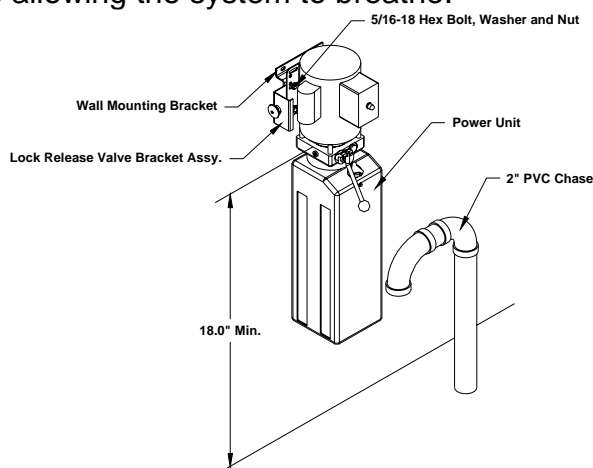

Fig. 5
5. Run the 2" PVC chase from the control area and join to the lift / containment assembly using the coupling provided. Use a soap water solution to ease assembly. All PVC joints must be leak proof. The power unit end of the chase should be finished as shown in Figure 5 to prevent contamination from entering the chase, while allowing the system to breathe.
15. Install the power unit mounting bracket or floor pedestal using the anchors provided. **IMPORTANT:** The electric motor must be mounted at least 18 inches above the finished floor level as per National Electric Code NFPA70. Assemble the power unit and lock release valve bracket to wall mounting bracket or pedestal with 5/16-18 cap screws and nuts provided. Refer to Figure 5.